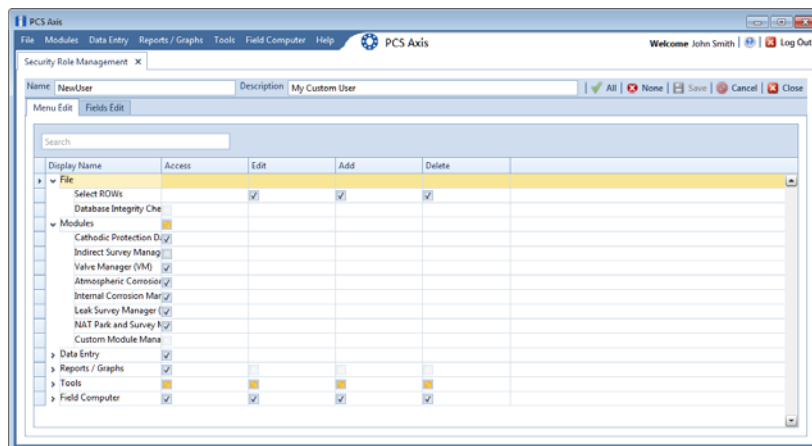

Figure 3-20. Expanded Menu Commands
- c To grant or deny access to sub-menu commands, click the arrow next to the main menu name to expand the list (Figure 3-20).